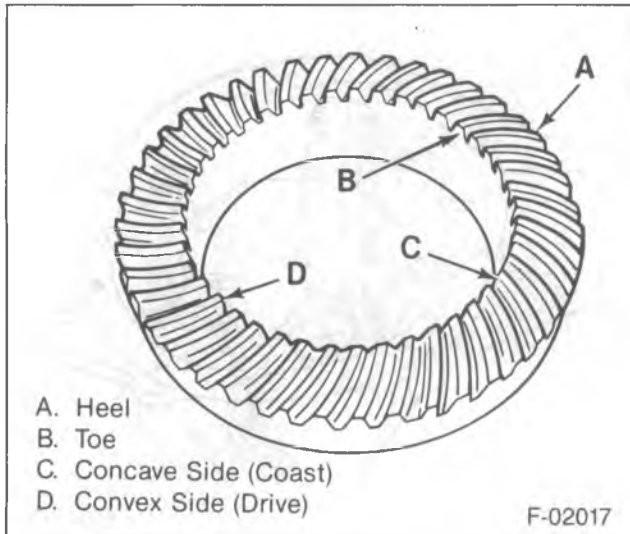

Figure 23—Gear Tooth Nomenclature
1. Wipe all oil out of the carrier, and carefully clean each tooth of the ring gear (figure 23).